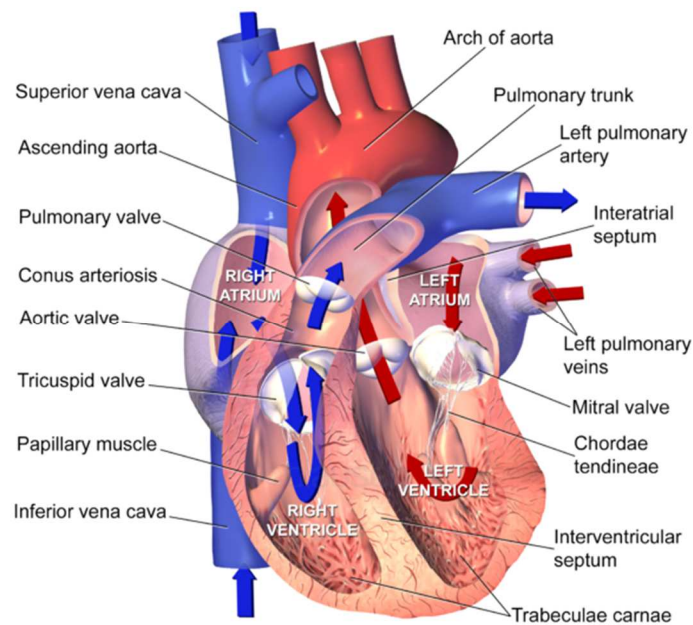

Figure 23 – Sectional anatomy of the heart (Blausen Medical Communications via Wikimedia Commons)..
The cardiovascular system is responsible for circulating blood throughout the body to supply the tissues with oxygen and nutrients. The heart is the muscle responsible for pumping blood to and through the vessels. It is divided into four chambers: right atrium, right ventricle, left atrium, and left ventricle, as seen in Figure 23. There are valves between each atrium and ventricle and in the ventricle output to prevent backward flow. The average adult cardiac rate is 60 beats per minute; however, this rate increases to 120 in the case of infants. The heart contraction stimulus is caused by an electrical signal that initiates at the Sinoatrial (SA) node, located at the top of the right atrium.